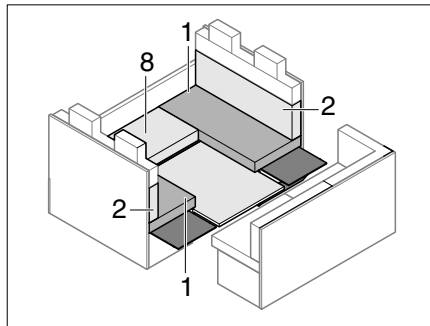

Fig. 199 During conversion
- Remove the seat cushion (Fig. 199,8) and the base.